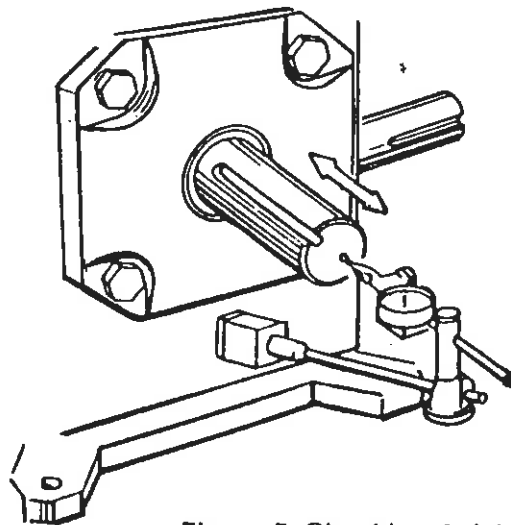

Figure 5 Checking Axial Float
- C. Moving the shaft back and forth by hand, check axial float with dial indicator as shown in Figure 5. Axial float must be .0005-.003 with .0005 being the absolute minimum. Do not preload bearings. If the axial float is not as specified add or subtract required shims under end cover.